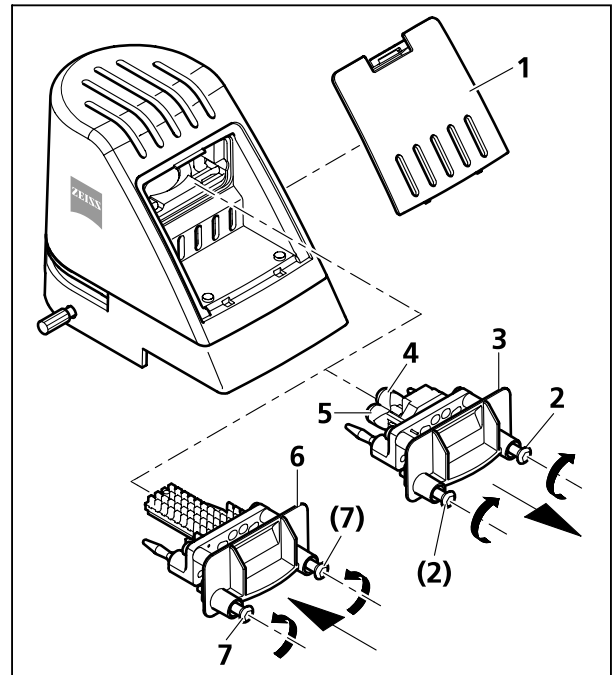

Fig. 17 Replacing the halogen bulb 6 V / 30 W or the transmitted-light illuminator with LED
- Press down the clamping lug of the cover (Fig. 17/1) and remove the cover from the stand.
- Loosen both fastening screws (Fig. 17/2) of the transmitted-light illuminator (e.g. transmitted-light illuminator with halogen bulb, Fig. 17/3). In doing so, slightly press the screws against the spring and turn them by 90°: Turn left and right screw clockwise.
- Pull the transmitted-light illuminator (Fig. 17/3) out of the stand.
- Pull the halogen bulb (Fig. 17/4) out of the lamp carrier and insert the new halogen bulb. Do not touch the new lamp with bare fingers as this will decrease the life of the bulb.
-  A spare bulb (Fig. 17/5) can be placed in the transmitted-light illuminator with halogen bulb and remain there during the operation.
- Push the transmitted-light illuminator (e.g. transmitted-light illuminator with LED, Fig. 17/6) into the stand and fasten it with the two screws (Fig. 17/7). In doing so, slightly press the screws against the spring and turn them by 90°: Turn right and left screw counterclockwise.
- Attach the cover (Fig. 17/1) again to the stand and let it snap into place.